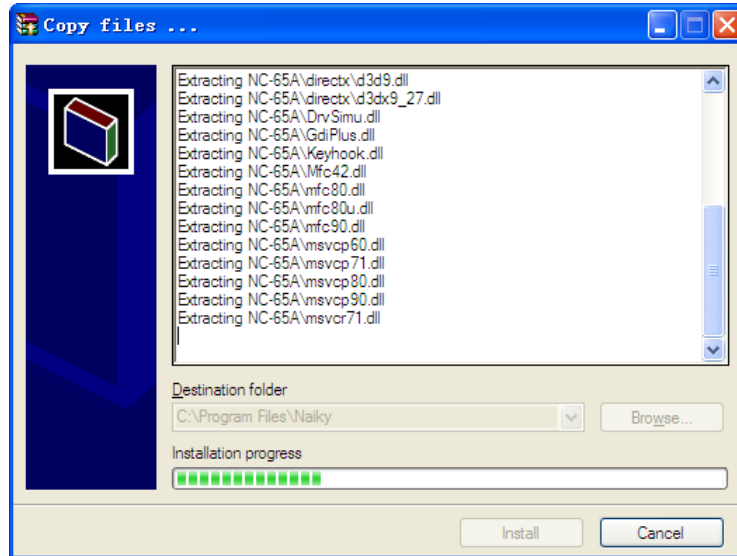

Fig. 2-17 Installing
- 3) Installation begins. Progressing picture is as shown in Fig. 2-17.